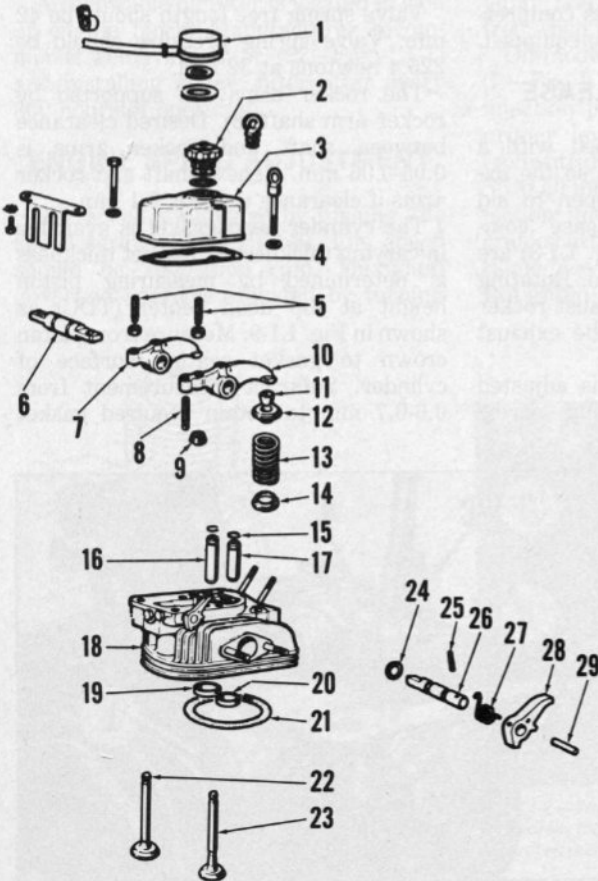

Fig. L1-8—Exploded view of cylinder head assembly.
Diameter of compression release shaft (26—Fig. L1-8) is 9.37-10.00 mm while lobe height is 8.45-8.50 mm.
Some models are equipped with a manual compression release so the exhaust valve may be held open to aid starting. Compression release components (24 through 29—Fig. L1-8) are mounted in the cylinder head. Rotating shaft (26) will force the exhaust rocker arm (10) to slightly open the exhaust valve.
Valve face angle is 45 degrees and minimum valve head margin is 0.5 mm. Valve seat angle is 45 degrees with a seat width of 1.4-1.6 mm. Valve seats are renewable and must be installed with head heated to 160°-180° C (320°-356° F). Valve seals are used on intake valves. Valve stem diameter is 6.98-7.00 mm while valve guide diameter is 7.03-7.05 mm. Desired valve stem clearance is 0.03-0.07 mm. Valve guides are renewable and oversize valve guides are available. Exhaust valve guide is bronze. Note locating ring (15—Fig. L1-8) around top of each guide. The cylinder head should be heated to 160°-180° C (320°-356° F) when installing valve guides.